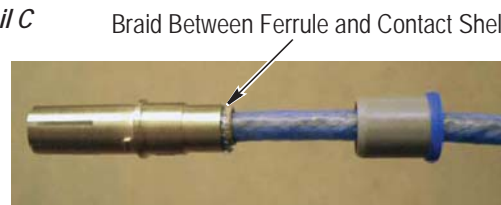

Figure 10
10. Align the contact shell key slot with the key slot of the one-piece dielectric as shown in Figure 10, Detail A. Then, slide the shell onto the dielectric until the contact shell bottoms over the ferrule as shown in Figure 10, Details B and C. This will sandwich the braid between the ferrule and the contact shell.
11. Use the quadrax ferrule tool (refer to 408-10191 for operating instructions) to hold the contact shell over the ferrule so that proper bottoming prior to crimping is ensured. See Figure 10.